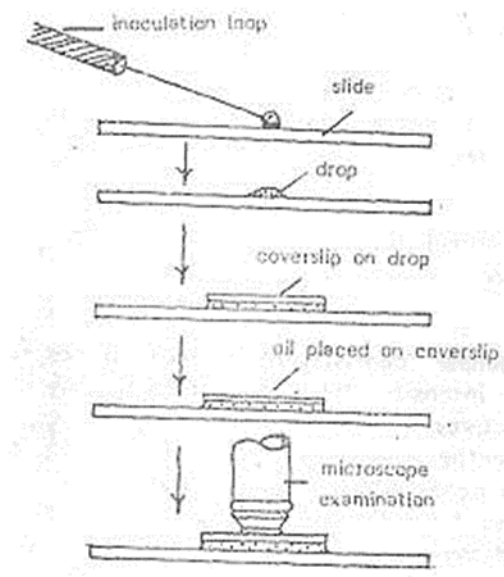

Fig. 2 Procedure for wet mount method
**b) Wet mount method:** Wet mount is a method for observing microbial samples under microscope. Here a desired liquid samples is placed on the slide (Fig.2.). Thereafter, a cover slip is placed without forming any air bubbles. The fluid spreads out in a thin layer between cover slip and slide. The mount is now examined under the microscope at appropriate magnifications (e.g., 10x100 X). This method is commonly used to view microscopic organisms that grow on liquid media, especially when studying their movement and behavior. **Fig. 2 shows Procedure for wet mount method**